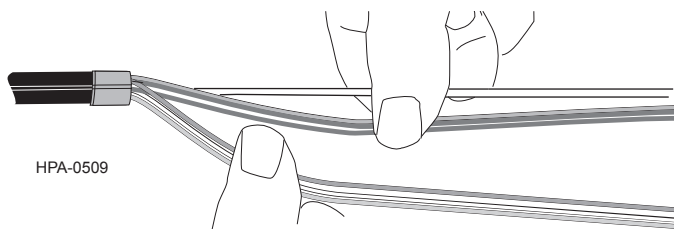

Figure 18
**Step 8:** Working from the switch back center back to the tape wraps, carefully unwind the buffer tubes from around the central member of the cable (Figure 18). Be careful not to bend or kink any of the buffer tubes.